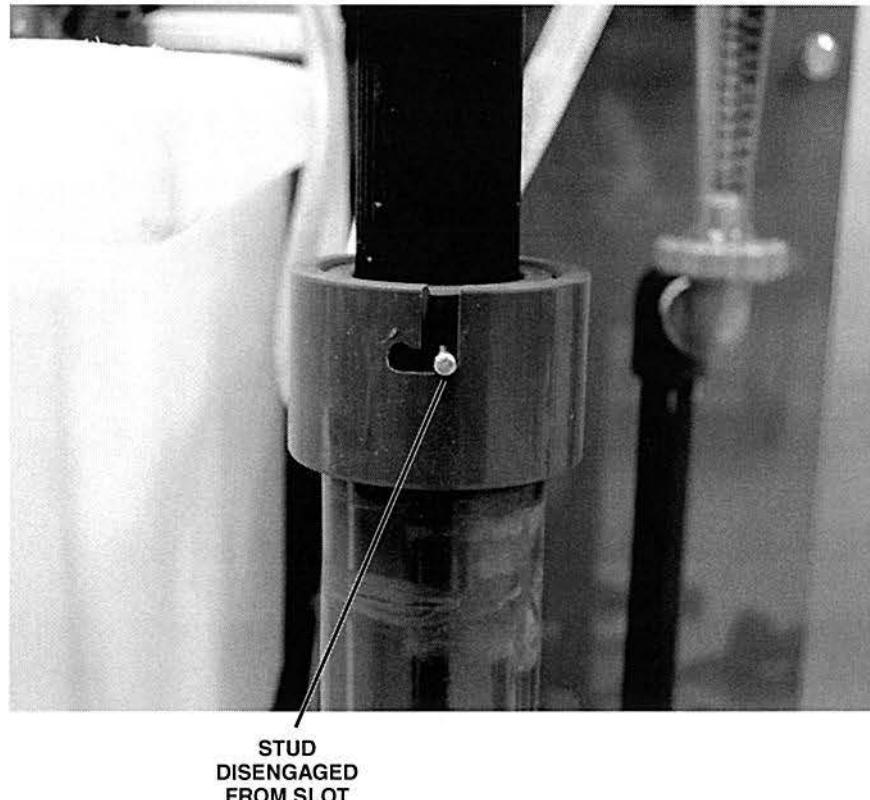

Figure 29. Studs Disengage from Slots in Fitting
- B. Grasp the housing of the electrode and turn it counterclockwise until the studs on the electrode housing are disengaged from the slots in the fitting, as shown in figure 29.